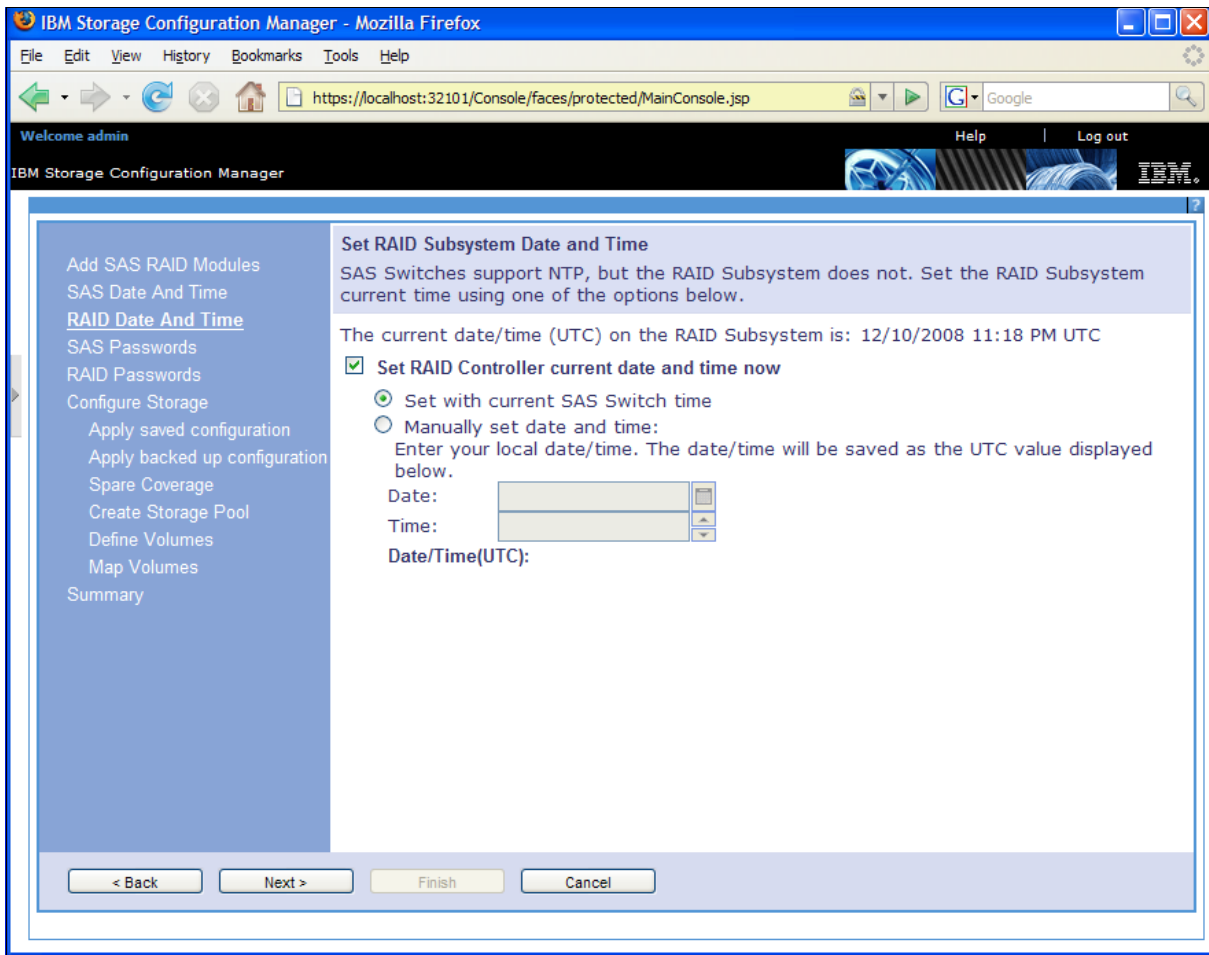

Figure 2-35 Setting RAID Subsystem date and time
4. Set the RAID Subsystem date and time (Figure 2-35). The RAID subsystem does not support an NTP server. Either set the RAID Subsystem date and time manually, or according to the SAS switch. Click **Next**.